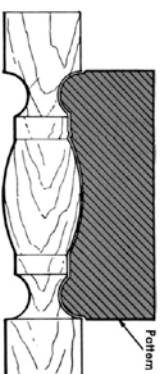

Fig. 17:26 Work Turned to Fit Pattern
4. With the parting tool, cut the work to the correct diameter at the marks, as shown in Figure 17:24 (bottom diagram).